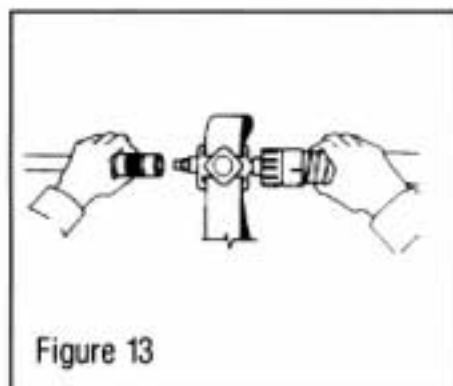

Figure 13
7. With air flowing, connect breathing tube assembly to air supply hose. Connect quick-disconnect fitting on breathing tube assembly to quick-disconnect coupler on air supply hose (see Figure 13). Once fitting is secured, release coupling sleeve to lock fittings together. Pull on both hoses to make sure they are attached securely.